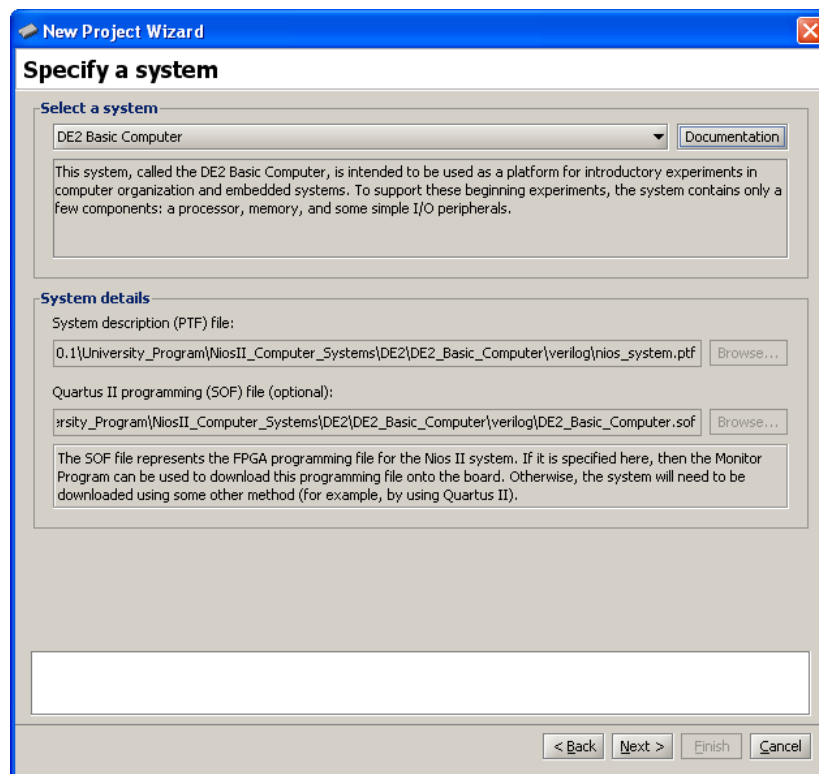
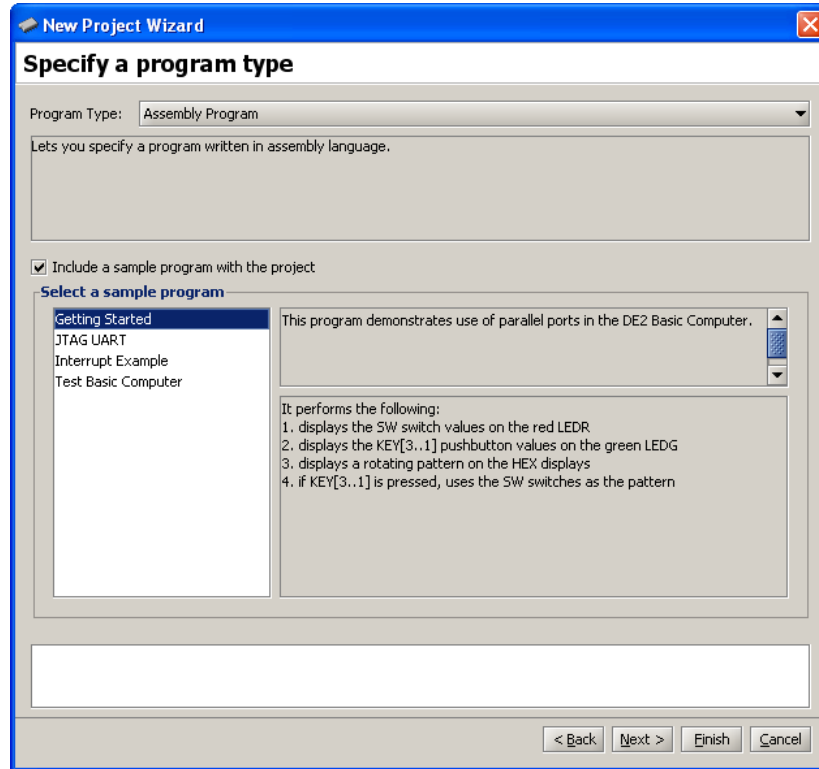
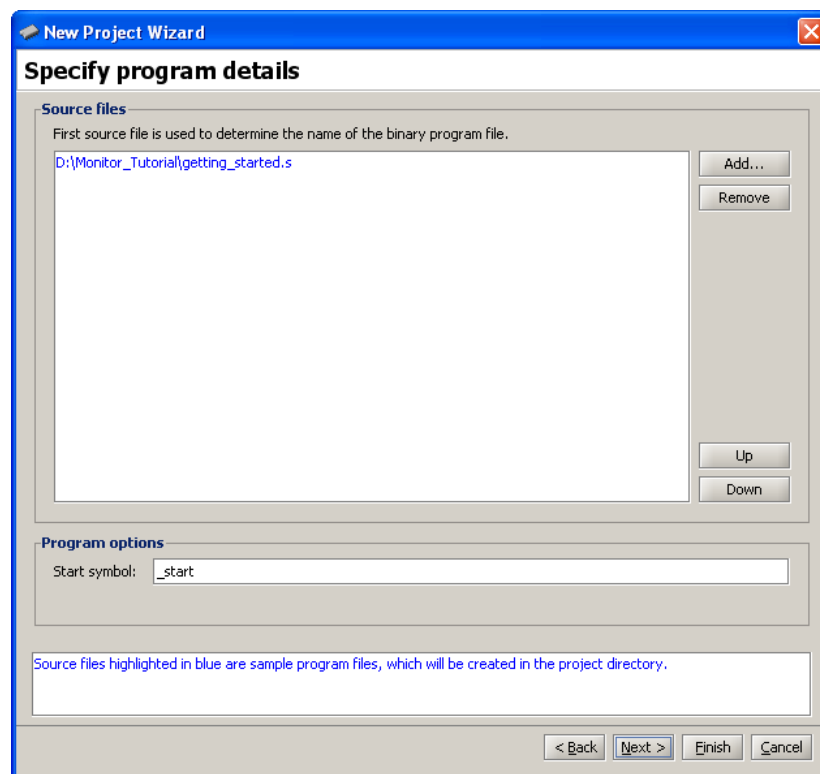

Figure 6. Specifying the Nios II hardware system.
Figure 7. Selecting a program type and sample program.
Figure 8. Specifying source code files.
2. Click **Next** to advance to the window shown in Figure 6, which is used to specify a Nios II hardware system. Nios II-based systems are described by a *.ptf* file, which is generated by the Altera SOPC Builder tool when the system is created. More information about creating systems using SOPC Builder can be found in the tutorial called *Introduction to the Altera SOPC Builder*, available in the University Program section of Altera's website. An optional *.sof* file, if specified, represents the FPGA circuit that implements the Nios II-based system; this file can be downloaded into the FPGA chip on the board that is being used.
As depicted in Figure 6, select the pre-built system named *DE2 Basic Computer*. In the top right corner of the screen there is a **Documentation** button. Clicking on this button opens a user guide that provides all
3. Click **Next** to advance to the screen in Figure 7, which is used to specify the program source files that are associated with the project. The **Program Type** drop-down list can be used to select one of the following program types:
For this example, set the program type to **Assembly Program**. When a pre-built Nios II computer system has been selected for the project, as we did in Figure 6, it is possible to click on the selection **Include a sample program with the project**. As illustrated in Figure 7 several sample assembly language programs are available for the DE2 Basic Computer. For this tutorial select the program named *Getting Started*. Click **Next** to advance to the screen in Figure 8. When a sample program has been selected, the source code file(s) associated with this program are listed in the **Source files** box. In this case, the source file is named *getting_started.s*; this source file will be copied into the directory used for the project by the Monitor Program. If a sample program is not used, then it is necessary to click the **Add** button and browse to select the desired source file(s).
Figure 8 shows that it is possible to specify the label in the assembly language program that identifies the first instruction in the code. In the *getting_started.s* file, this label is called `_start`, as indicated in the figure.